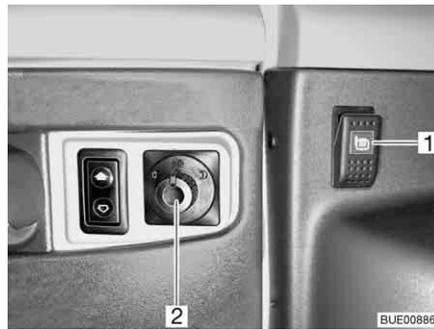
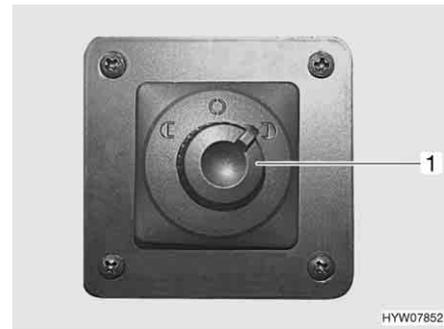

Fig. 34 External mirror adjustment and heater switch (Viseo)
Fig. 35 External mirror adjustment switch
- Select the external mirror to be adjusted. To do so, turn the rotary switch (Fig. 34,2 or Fig. 35,1) to the left or right.
- Press the switch (Fig. 34,2 or Fig. 35,1) in the appropriate direction.
- Press the switch (Fig. 34,1 or Fig. 36,1) on the dashboard or on the centre console. The switch indicator lamp shows it is in operation.